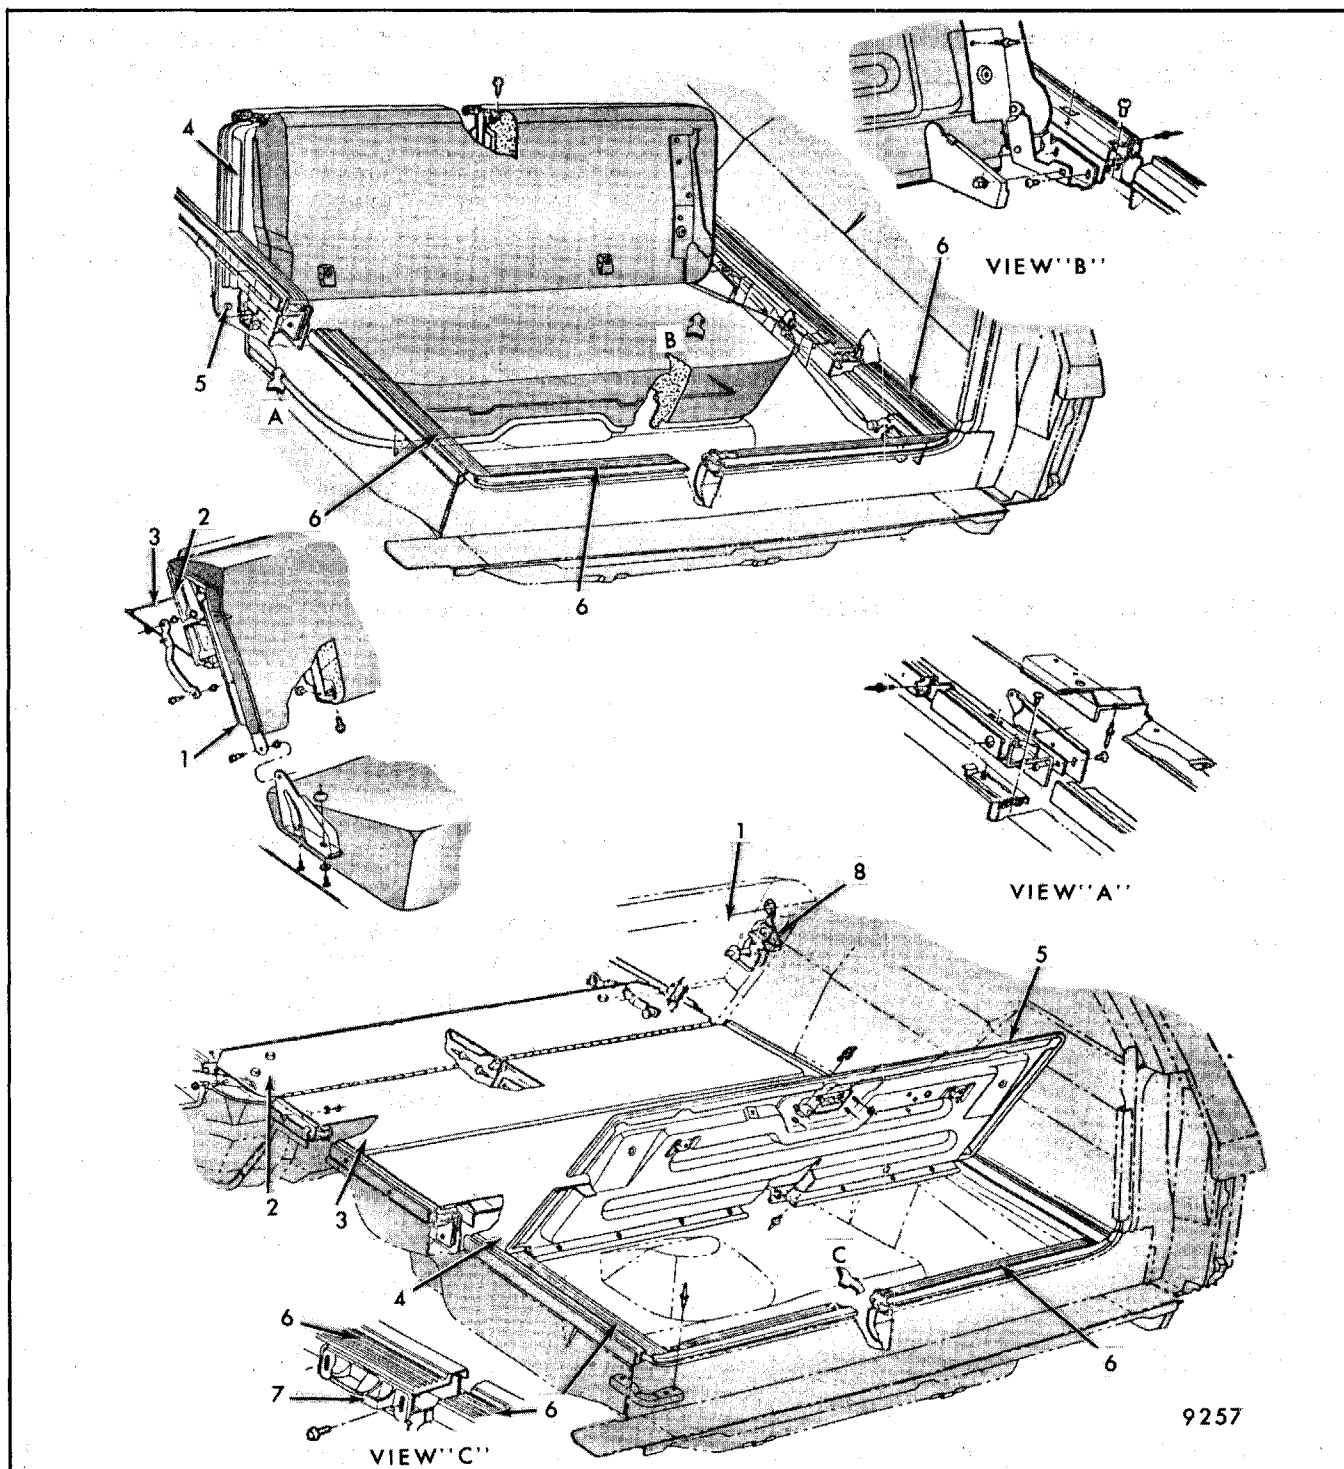

Fig. 9-85-Folding Seats and Load Floor Panels - "B" Body Styles
3. Figure 9-85 is typical of all "B" body station wagon styles.
attaching screws from top of panel. If removing right side filler panel, remove spare tire cover panel and remove screws securing filler panel, then remove panel. On "B" body styles (Fig. 9-85), remove side and rear filler strips by inserting screwdriver or similar tool between module and filler strip and lift upward to disengage snap-in retainers from module.